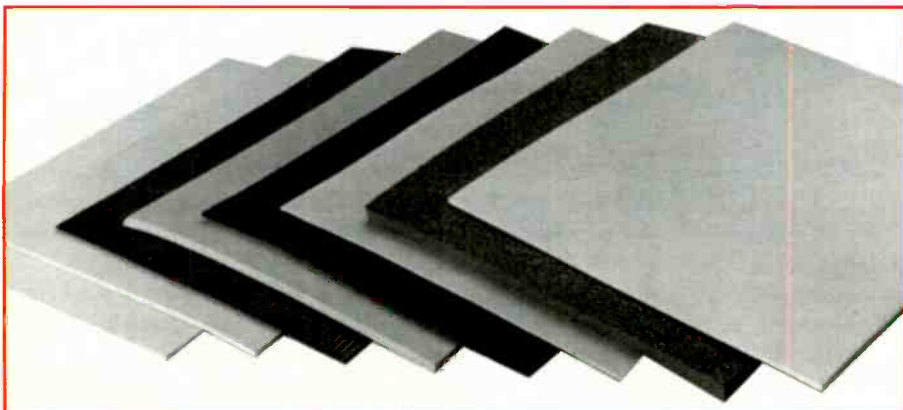

Figure 5. Dissipative or conductive vinyl or rubber mats for the bench and floor come in various colors, thicknesses, and densities.
- A dissipative floor mat may also be used (Figure 5), especially if the technician intends to wear foot grounding devices. The selection of the floor mat should take into consideration several factors. If anything is to roll on the mat, then a soft, cushion-type mat will probably not work well. If the tech does a lot of standing, then the soft, anti-fatigue